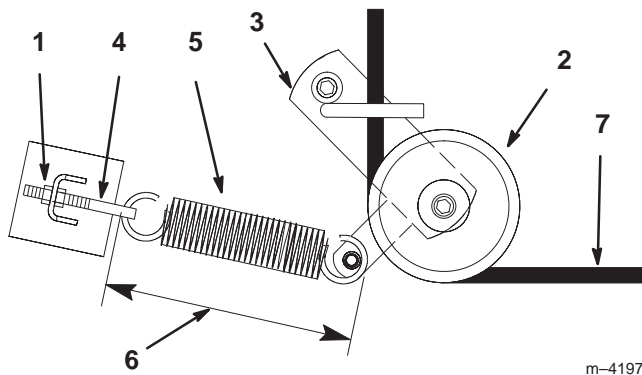

Figure 39
4. Loosen the outer nut on the spring eye bolt (Fig. 39).
6. Remove the spring loaded idler pulley (Fig. 39).
7. Route the new belt through the idler arm (Fig. 39).
9. Tighten the outer nut on the spring eye bolt (Fig. 39).
Note: Check the spring length. The spring should measure 9-3/8 in. \pm 1/8 in. (238 mm \pm 3 mm) when installed with the height-of-cut set at 3 in. (76 mm). Adjust it if it does not (Fig. 39).